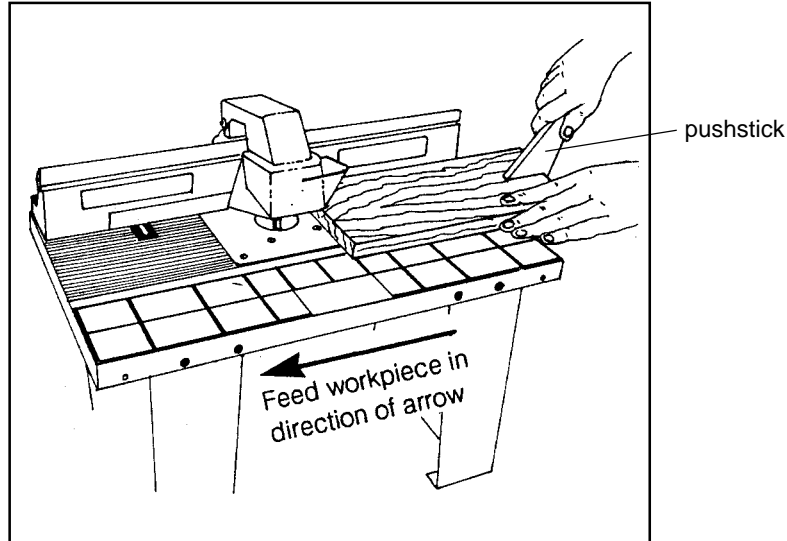

fig. W.2
When routing, always feed against the rotation of the cutter. Feed workpiece in the direction of arrow in fig. W.2.
4. Make the cut by sliding the straight edge of workpiece against the fence. Use a **Pushstick** as shown in fig. W.2. (For each successive cut, the fence would need to be re-adjusted).